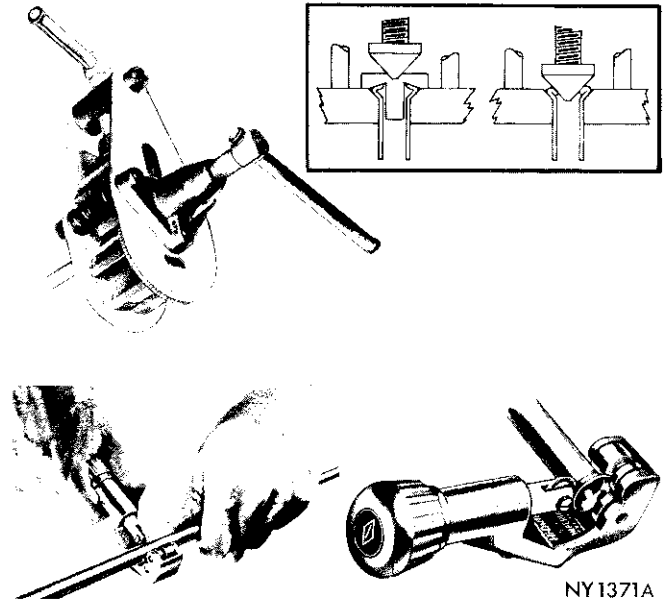

Fig. 13—Cutting and Flaring Steel Tubing
(1) Using Tool C-3478, cut off the damaged seat or damaged tubing (Fig. 13).
(2) Ream out any burred or rough edges showing on inside edges of tubing. This will make the ends of the tubing square and insure better seating of the flared end of the tubing. **Place compression nut on tubing prior to flaring tubing.**